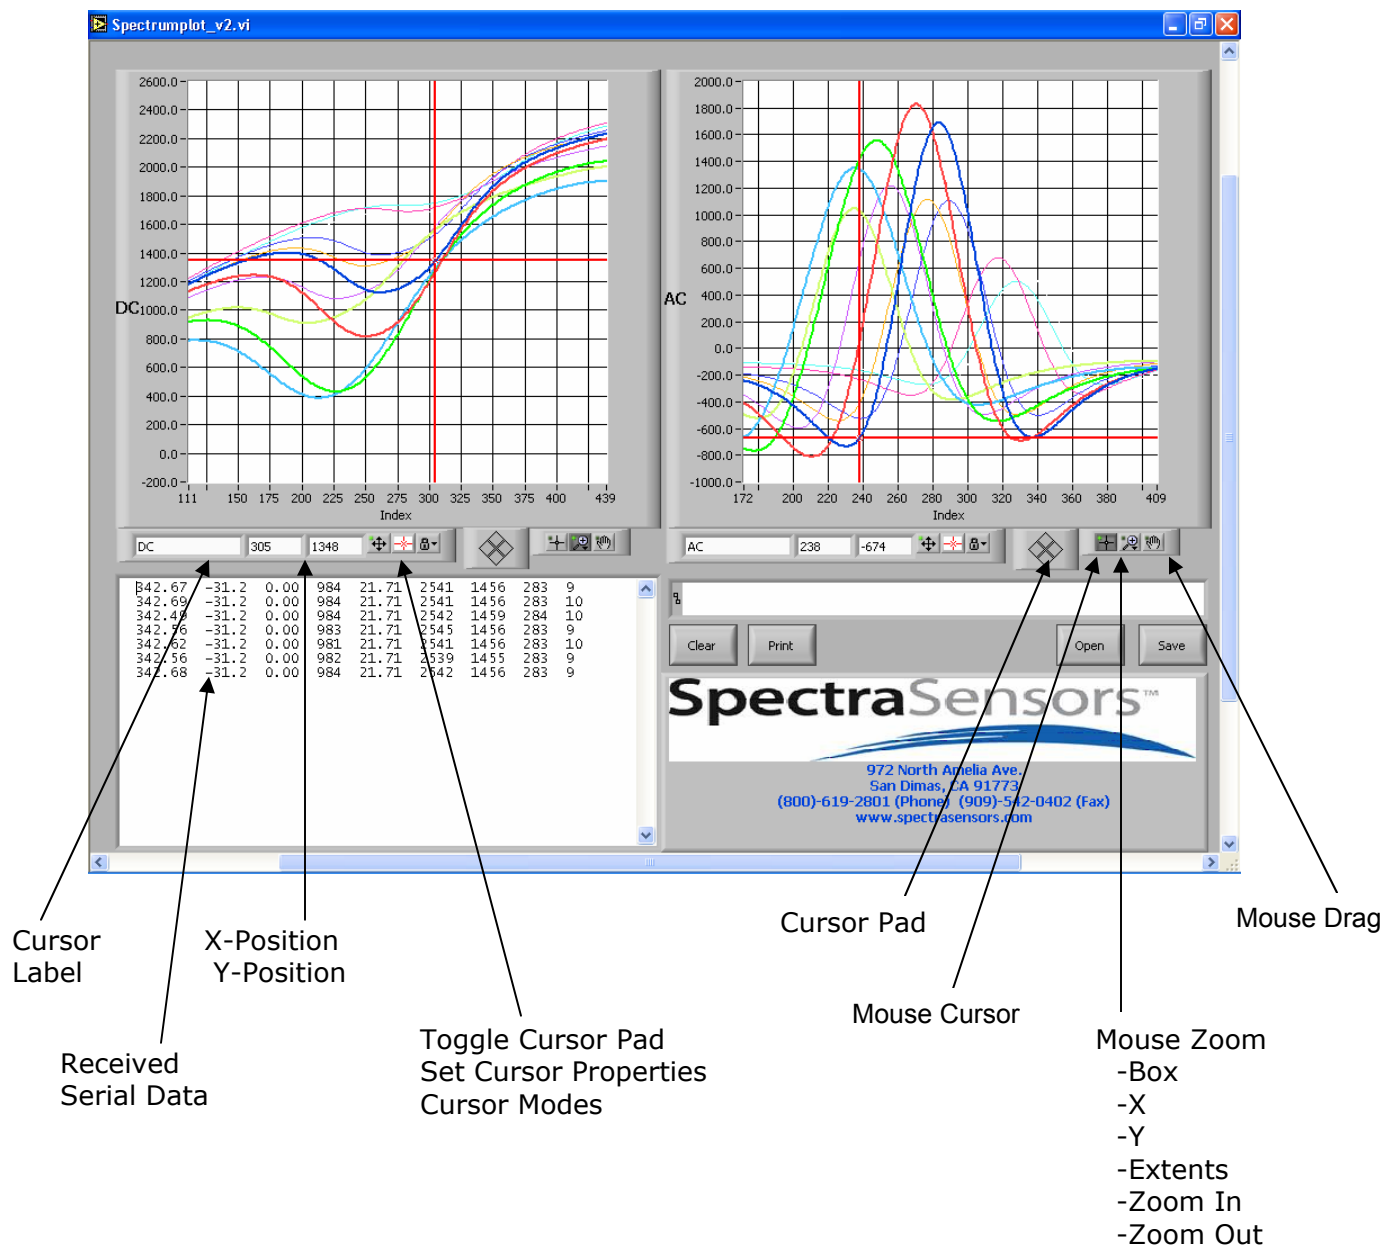

Figure 13: SpectrumPlot view
4. To view spectrum, press **Clear** to first clear the graph and then press **# 6** on the analyzer keypad. Two plots display, **DC** on the left and **2F** on the right (see Figure 13 on page 30).